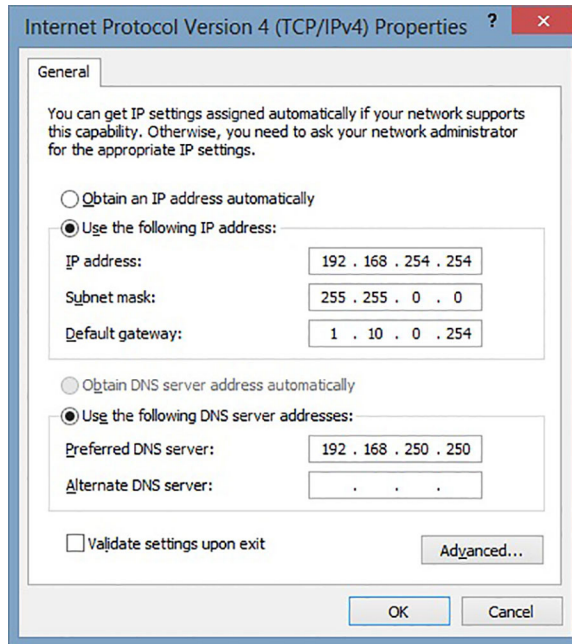

Figure 65. Internet Protocol Version 4 (TCP/IPv4) Properties Dialog Box
6. In the QC 101 Shell window, click the **Commit C Drive** button (see figure 65, ①).